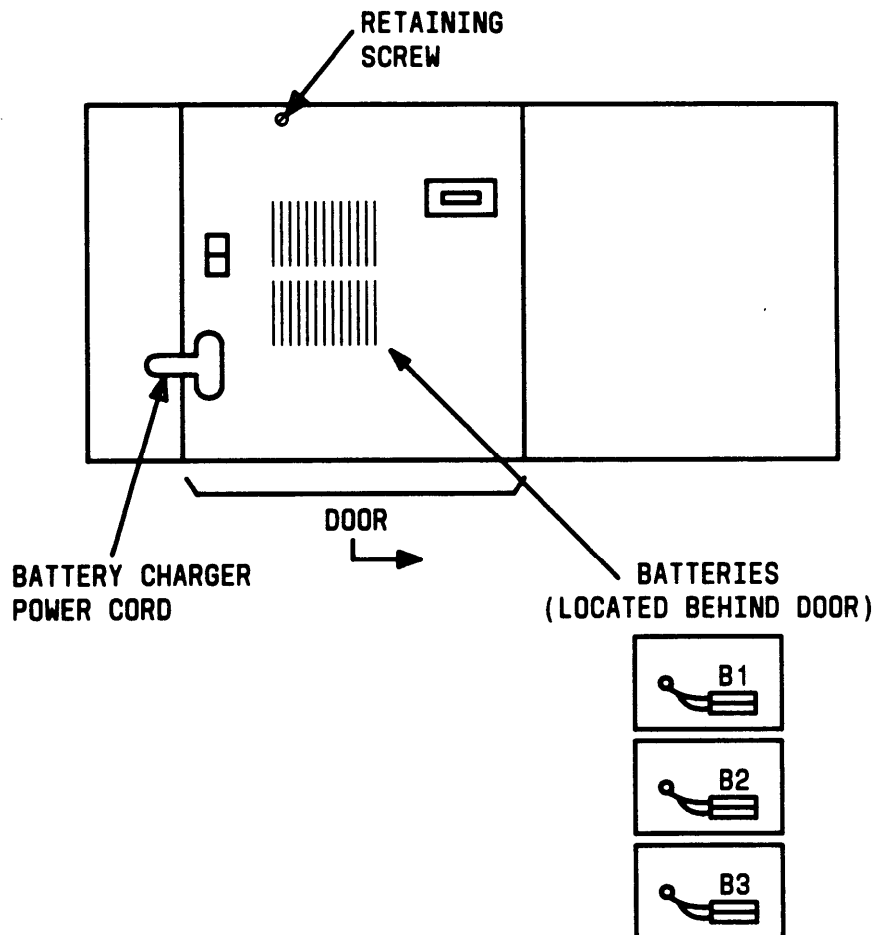

Figure 10. AC/DC Power Distribution Miscellaneous Unit
- At power distribution unit (Figure 10), disconnect battery charger power cord.
23. Reconnect batteries (Figure 10).